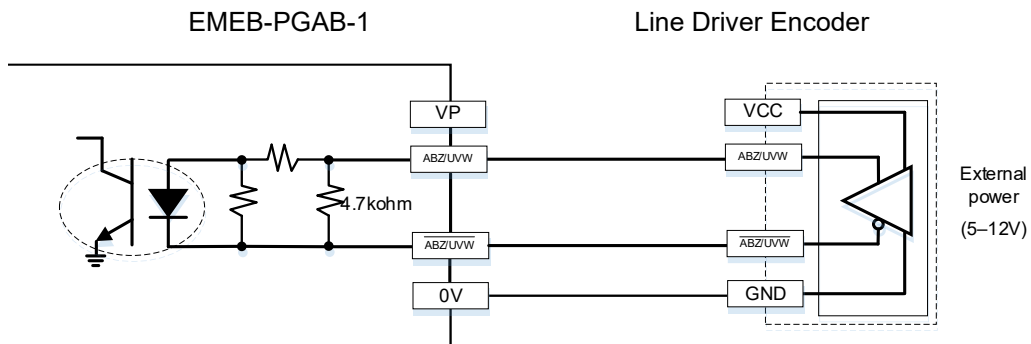

Figure 3-31
4. Line driver output encoder application: Each set of input current is 5–15 mA. If input voltage uses 12V power, connect the encoder power externally. See the PG wiring Figure 3-31 below.